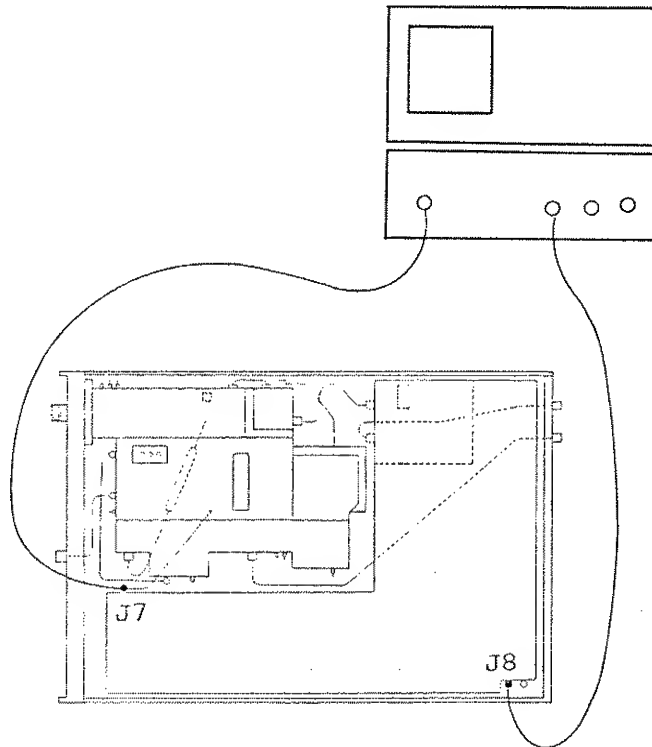

Figure 10-7 Step AMP Adjustment
- ⑮ Adjust the R184 so that RBW is set to the same level at 300 kHz.
- ① Connect the units as shown in Figure 10-7.